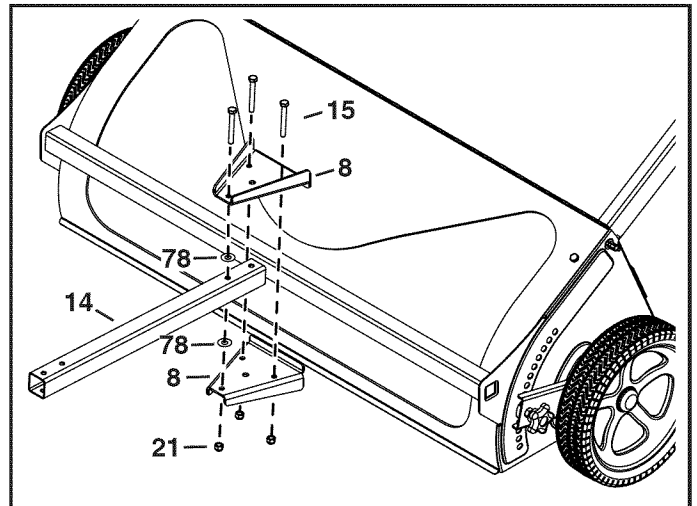

FIGURE 4
STEP 4: (SEE FIGURE 4)
- Attach the drawbar (14) to the sweeper by fastening a drawbar bracket (8) above and below the drawbar using two washers (78), three 5/16" x 2-1/2" hex bolts (15) and 5/16" nylock nuts (21).